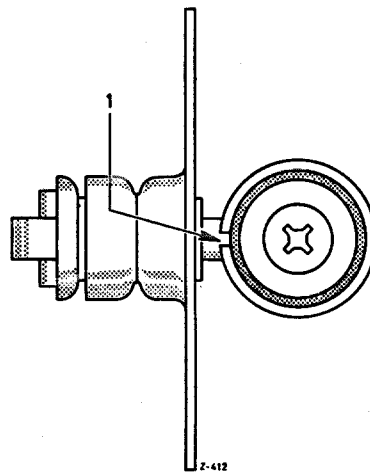

Fig. 72—21/3
5. With the door closed, tighten the oval head countersunk screw (6) at the lock bolt by means of a Philips screw driver until the tension of the rubber core (3) is great enough to press the adjusting ring (2) firmly into the lock cone.
**Note:** The slot (1) of the adjusting ring must be at the side of the lock bolt anchorage (Fig. 72—21/3).